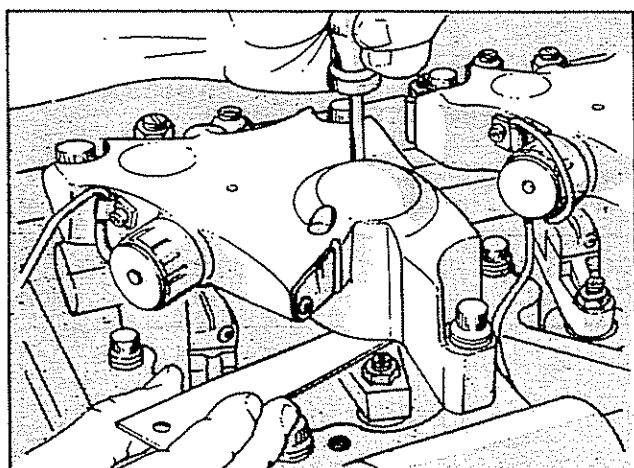

Fig. 2-55, (OM1063L). Adjusting crosshead to slave piston clearance
9. If Jacobs Brake is used, use 3375012 (0.018 inch [0.46 mm] thick) Feeler Gauge and 3375008 Torque Wrench Extension, set the exhaust valve crosshead to Jacobs Brake slave piston clearance, Fig. 2-55.